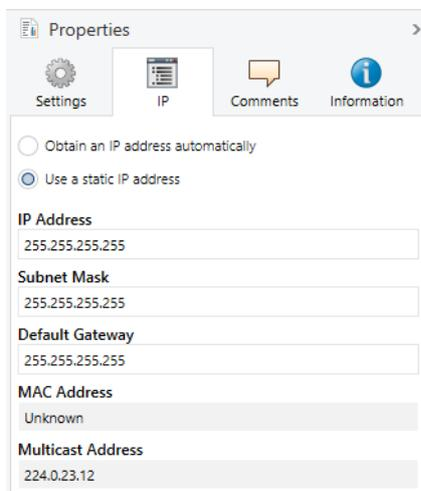

Figure 21: IP settings
3. You will find the available selection options in figure 21 and table 12 “Settings for manual IP address entry or for receiving automatically”, p. 35.